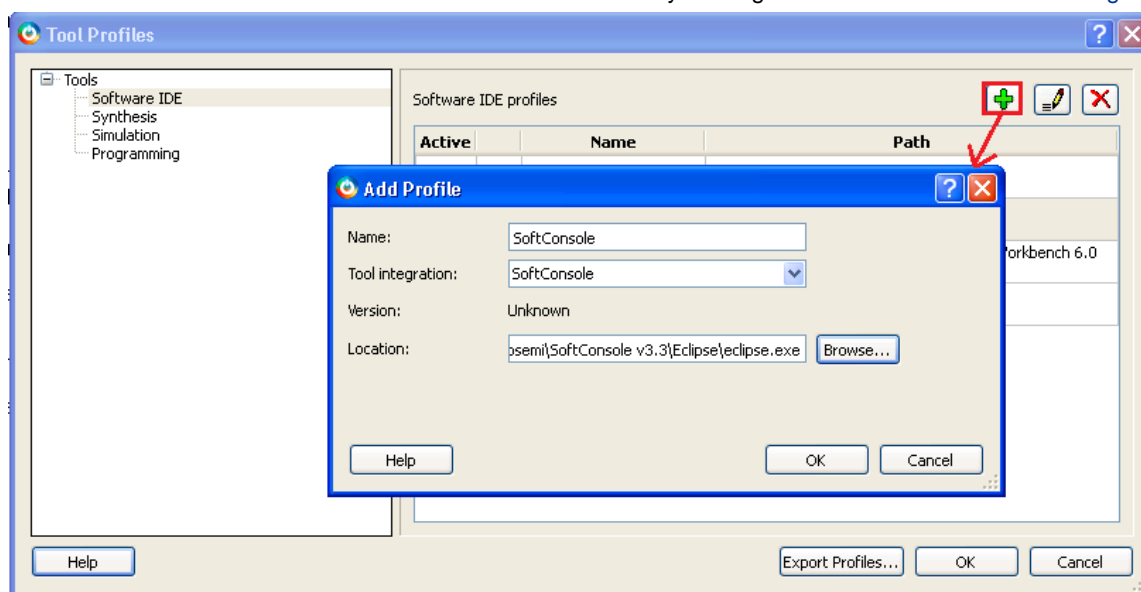

Figure 2 · Selecting SoftConsole as Software IDE
- Click **Edit Tool Profiles** and add SoftConsole by clicking on Software IDE as shown in Figure 2 .